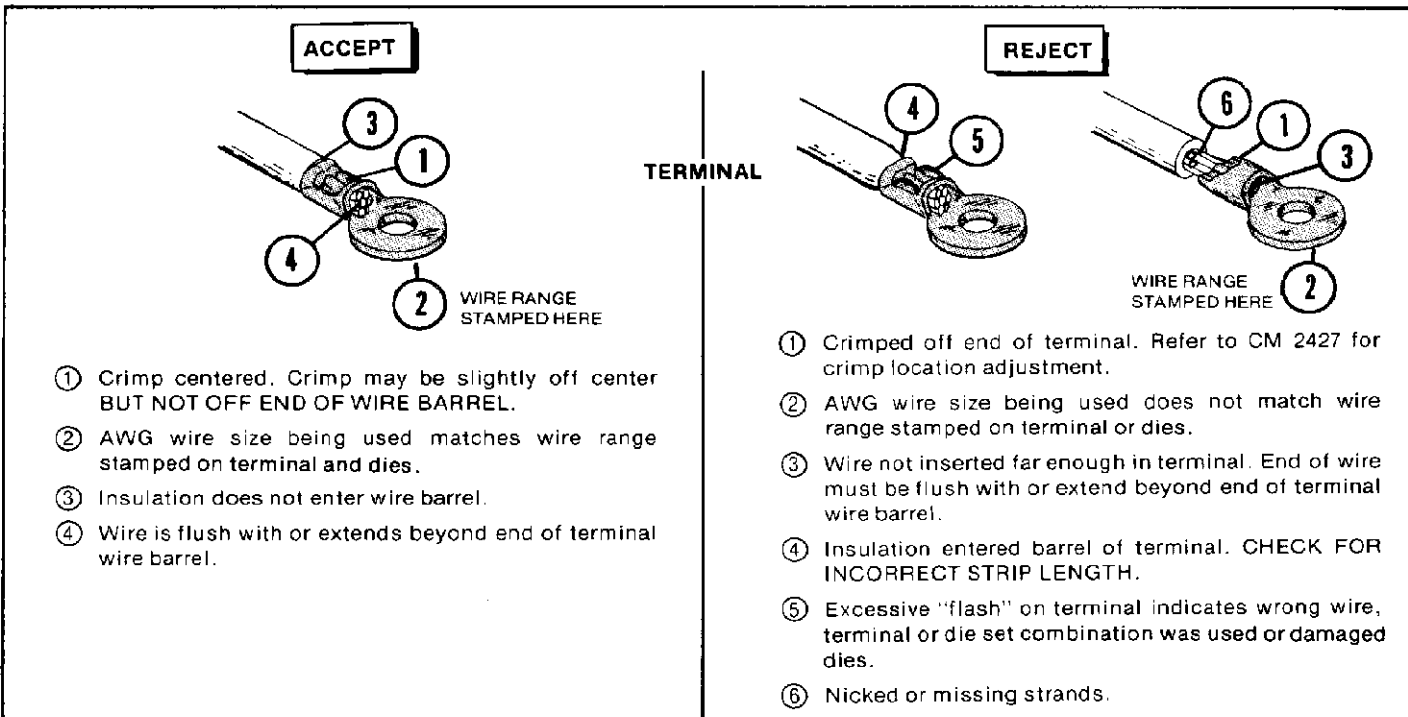

Figure 3
- Refer to Section 3 and Figure 3 for terminal crimp inspection procedure.
Inspect crimped terminals by checking the features described in Figure 3.